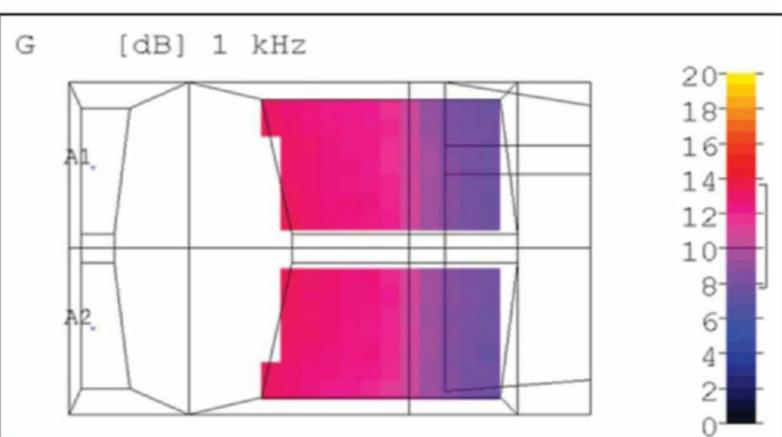
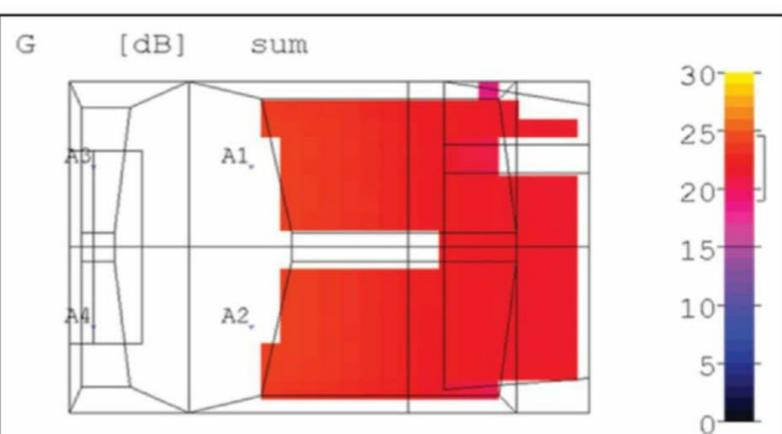

Figure 5: The acoustical strength varies quite a bit in the original condition of the auditorium.
Figure 6: After installation of a choir shell, G improved and became much more uniform.
Even more interesting is the comparison of the impulse responses. **Figure 6** shows the uncorrected (upper) and the Dirac corrected impulse response (lower). What's striking is that the reflections at about 3 ms and 4ms from the main impulse are only slightly diminished, but the cleanliness of the main impulse and phase coherence is markedly improved.
Figure 6: Comparing the ungated in-room impulse response of the left speaker uncorrected (upper) and the same impulse with Dirac Live correction (lower) shows a remarkable improvement in phase coherency over the first few milliseconds.
The original measured G, mapped onto the floor plan, is shown in **Figure 5**. The mapped values correspond to the average G from 125 Hz to 4 kHz. The ratio of maximum-to-minimum G was 5.6 dB. After a choir shell was installed, the G almost doubled, and its minimum value (back of the room) was only 2.7 dB lower than the maximum value (front of room), resulting in much improved choir projection into the seating area (see **Figure 6**). Speech intelligibility is specified in various ways: STI, STI-N, STI-PA, and %Alcons. Specialized instruments are used to measure intelligibility. However, the main determinants of speech intelligibility are RT and background noise. D(50) is used by some consultants as a guide to the speech intelligibility of a venue.